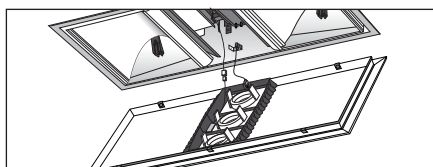

Fig. 19
2. Bring fascia assembly up to the Tastic body. (Fig. 19) Connect the earthing wire to the fascia and connect the IR sensor lead(Smart Switch models).